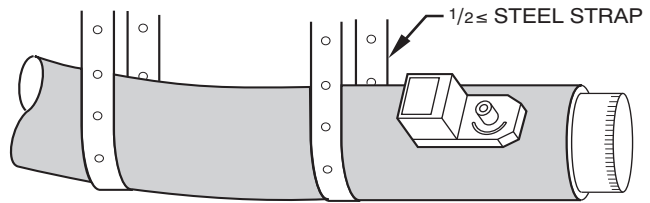

Fig. 6 - Insulated Round Flexible Ductwork
4. If dampers are applied in an unconditioned space, insulate them using 1-1/2 inch to 2 inch insulation (See Fig. 6).